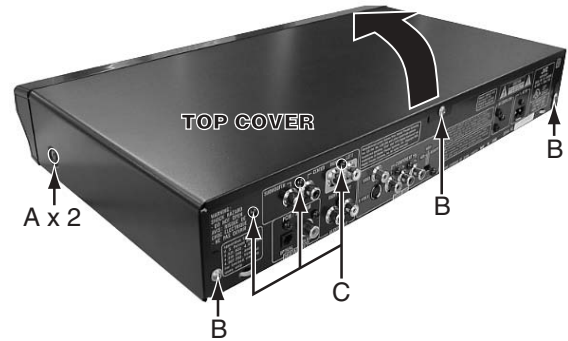

Fig.2-1
2.1.1 Removing the top cover (see Fig.2-1)
2.1.2 Removing the surround audio board (see Fig2-1,2-2)